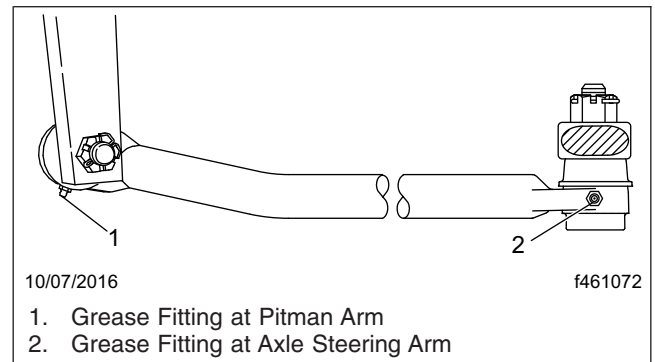

Fig. 4, Drag Link
1. Using a clean rag, wipe all dirt from both drag link grease fittings; see **Fig. 4.**